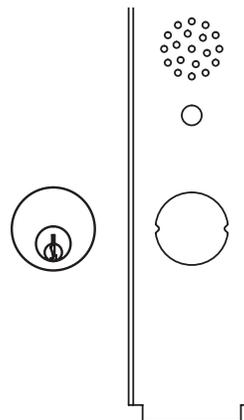

Figure 12
1. Slide cylinder through collar into insert as shown (Figure 12).